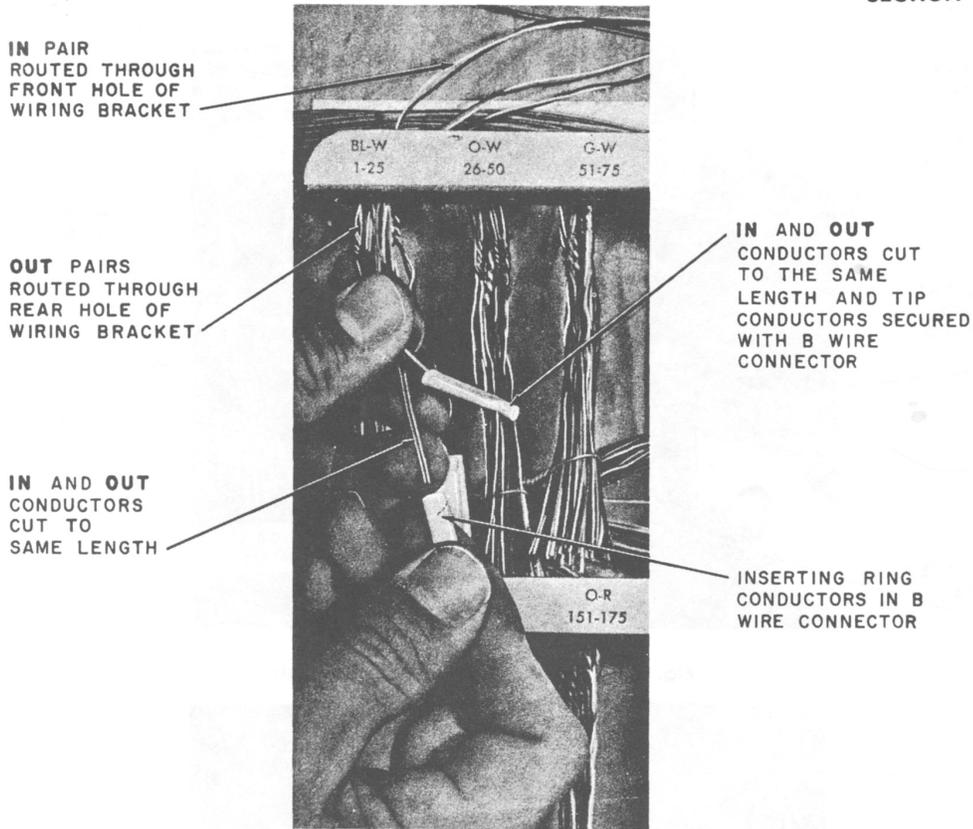

Fig. 11—Connecting *IN* and *OUT* Cable Pair
5.06 Cut the assigned **IN** pair to the same length as the assigned **OUT** pair and connect with a B Wire Connector as shown in Fig. 11. If for any reason the **IN** pair is shorter than the **OUT** pair, piece out the **IN** pair (Part 6). Do not cut the **OUT** pair. Use only a B Connector Presser or Pneumatic Presser for crimping the B Wire Connectors.